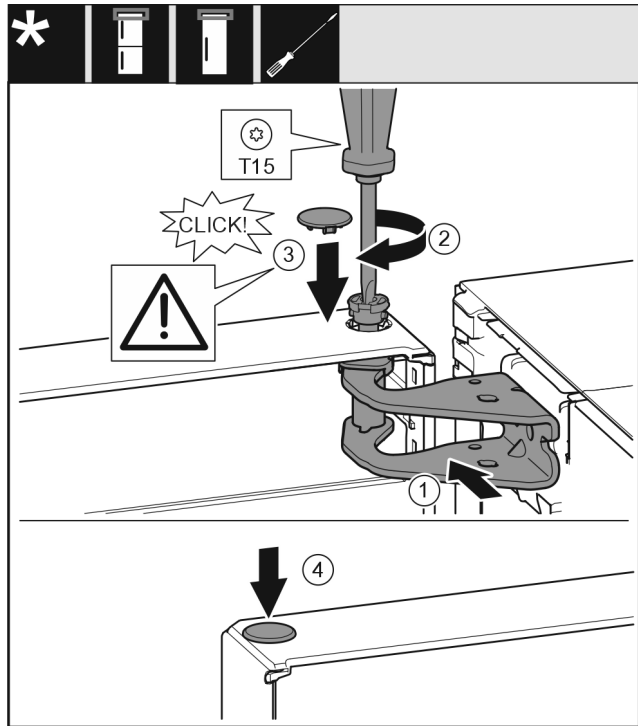

Fig. 56
- Align the top door with the opening in the swap bearing block Fig. 56 (1).
- Insert the bolt Fig. 56 (2) and use screwdriver to tighten it.
- Insert the cover Fig. 56 (3).
- Check that the cover Fig. 56 (3) is resting on the door.
- Insert the cover Fig. 56 (4).